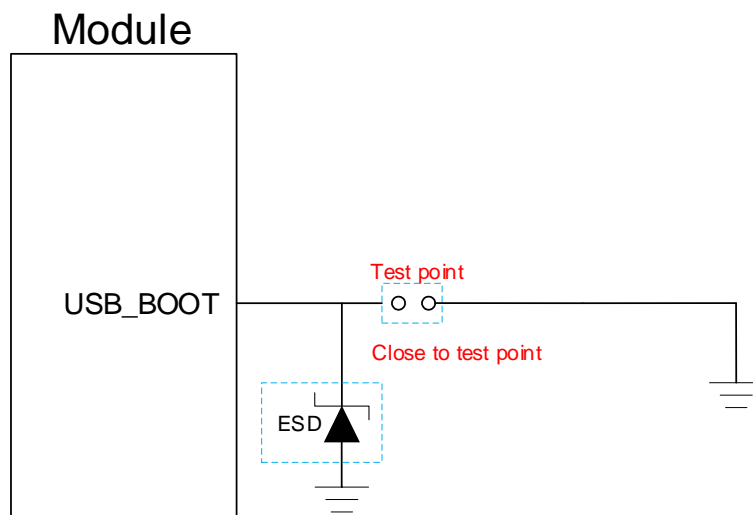

Figure 18: Reference Design of USB_BOOT
2. Follow the above timing when using MCU to control module to enter the forced download mode. If you need to manually force the module to enter download mode, directly connect the test points shown in **Figure 18**.
4.3. (U)SIM Interfaces